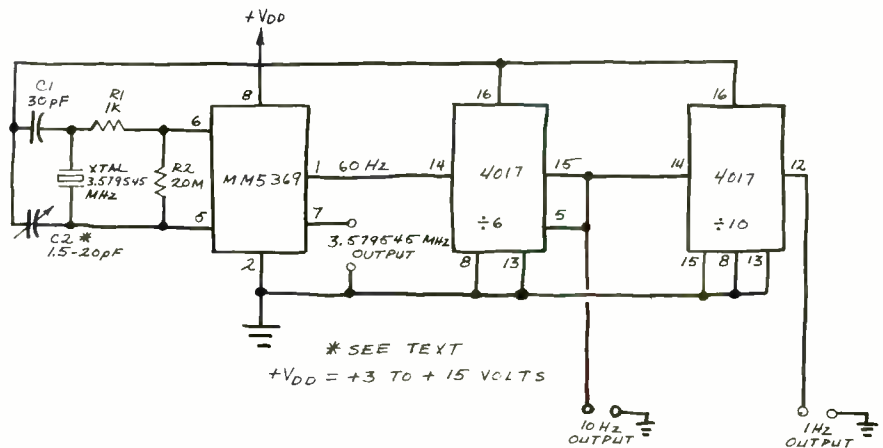

Fig. 1. Schematic of a precision crystal-controlled timebase.
**H**ERE'S a two-digit counter with a crystal-controlled timebase that you can either use as a stopwatch or modify for other timing applications. The timebase (see Fig. 1) uses an MM5369 crystal-controlled oscillator/divider. This chip generates a stable 60-Hz reference when connected to a standard 3.58-MHz color TV oscillator crystal. A miniature trimmer capacitor ( $C_2$ , 1.5 to 20 pF or similar) permits you to tune the oscillator to precisely the right frequency. For best results, connect an accurate frequency counter to pin 7 and adjust  $C_2$  until the counter indicates a frequency of 3.579545 MHz.